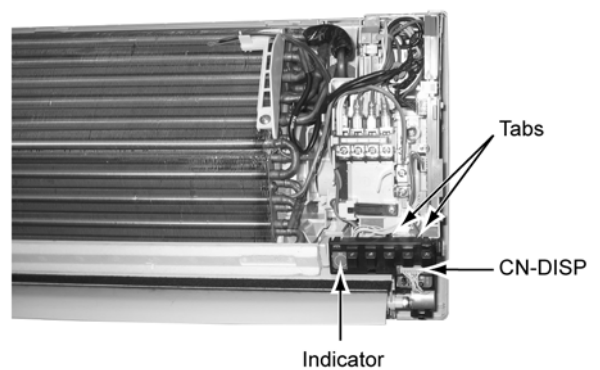

Fig. 3
- Release the Indicator by detaching the CN-DISP, then remove the Indicator from the 2 tabs. (Fig. 3)